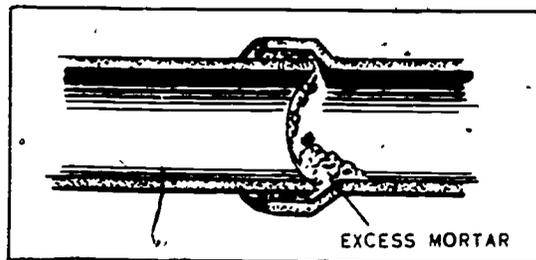
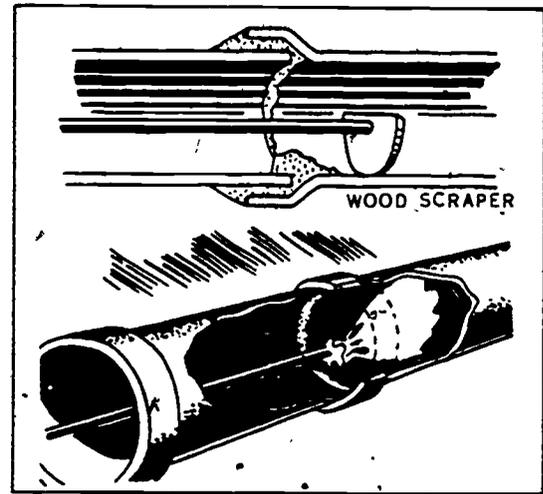

Figure 1-15 Joint made without oakum
Figure 1-16 Removing excess mortar
*Making joints.* Concrete or tile sewer line joints, used either for sanitary or storm sewers, are sealed with either oakum and mortar or oakum and hot bituminous compound. Before you make a joint, see that the spigot end of the tile is centered in the hub of the joining pipe. A joint that is not centered tends to leak on the side that has the least space. First, pack the oakum into the hub with sufficient pressure to tamp it, but do not exert too much pressure because you may break the hub of the pipe. Next, mix a sufficient amount of mortar, pack it into the bottom of the hub, and continue up the sides and over the top. Apply enough mortar to insure watertight seal and shape it to make a neat appearing job. See the diagram of a pipe joint made without using oakum in figure 1-15. Note the buildup of mortar inside the pipe. Excess mortar within a pipe is undesirable because it restricts the flow of sewage. To remove the mortar, use either a wood scraper or a swab, as shown in figure 1-16. Remove the excess mortar as soon as you complete the particular joint. Your mortar mix should consist of one part cement to two parts sand.